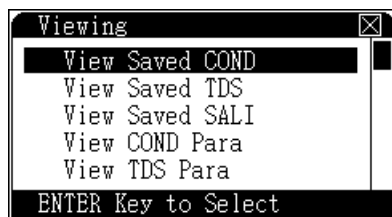

Figure 24 View Data
- 2 Navigate to the type of data to view and press **[Enter]**. See Figure 24.